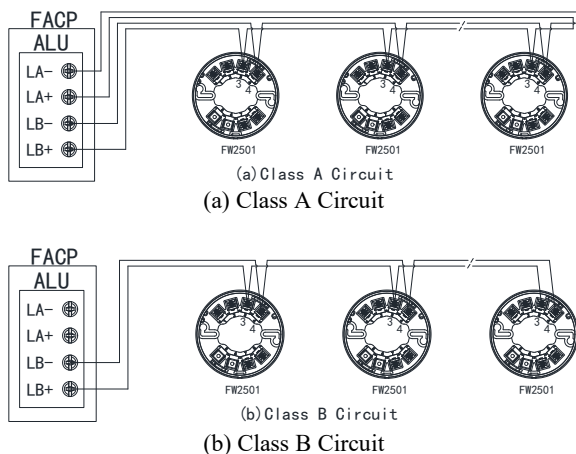

Figure 3. Wiring Diagram
2. Wire the SLC to the detector base, as illustrated in Figure 3. There is no polarity distinction between terminal 1 and terminal 2.